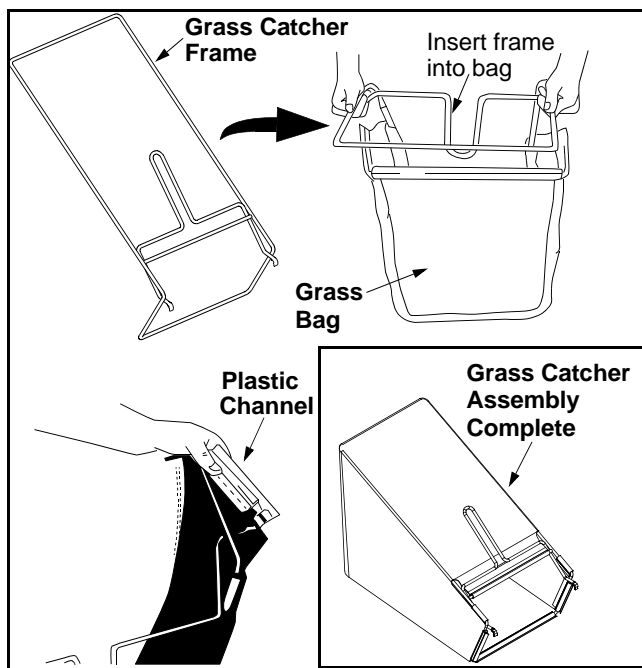

Figure 7
1. Insert frame into grass bag with the black plastic side on the bottom of bag. See Figure 7.
**IMPORTANT:** Entire channel except the center top of the bag attach from outside of bag. The center top of the bag attaches from inside of bag. See Figure 7.